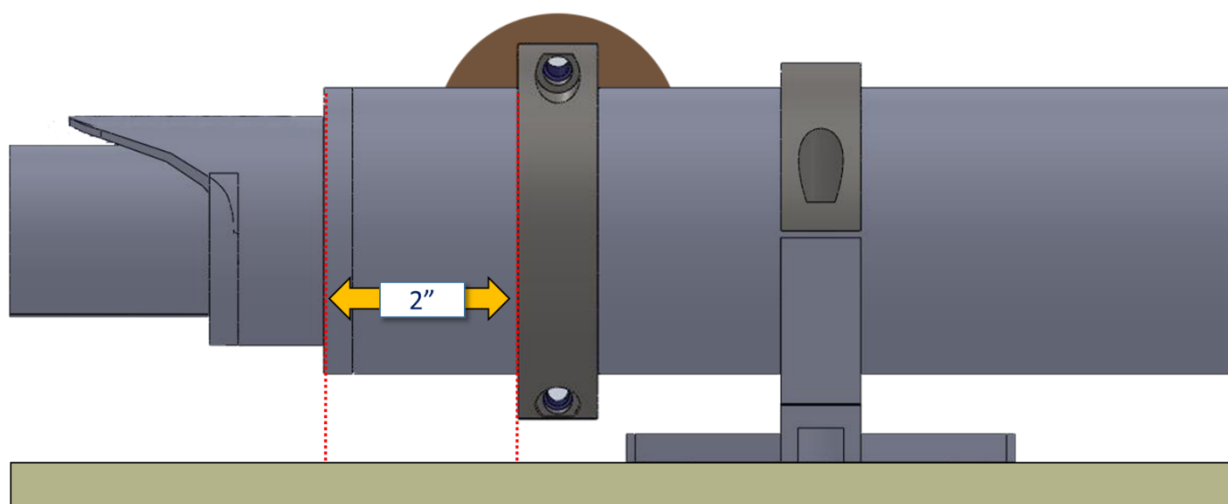

Figure 11: Measure Roller assembly
- Step 2.** Measure each side of the roller assembly to ensure it is 2 inches in from the end of the actuator main tube. (See Figure 11.)